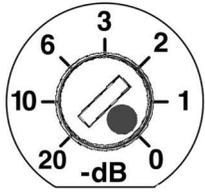

Figure 17: Attenuation Selector
8. Before placing the grille frame, choose an attenuation setting, if the loudspeaker has this feature (see Figure 17).